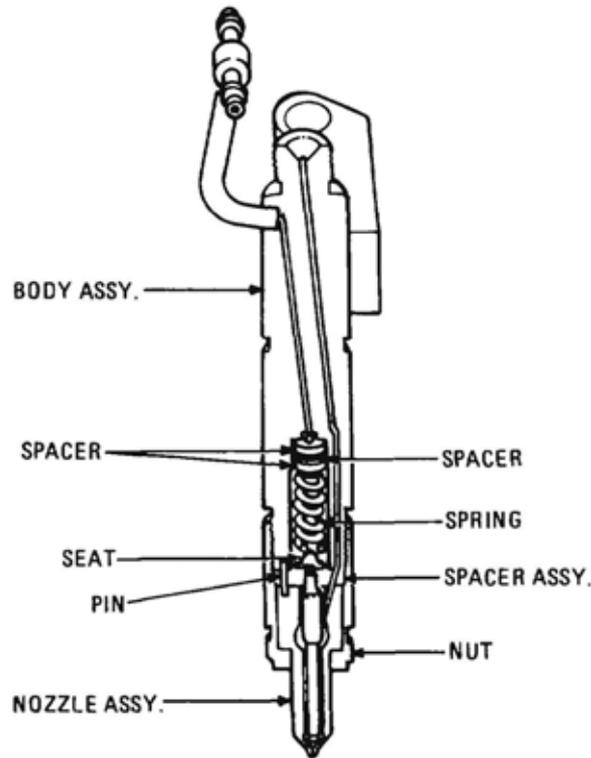

Figure 24 Fuel Injector Nozzle Assembly
39. The fuel under high pressure travels from the injection pump, through the high-pressure lines to the injection nozzle mounted at the top of each cylinder. The high-pressure lines are all the same length and bore size, and are isolated from each other to prevent them from rupturing. The nozzle assembly contains a spindle and spring as well as a high-pressure fuel duct. The spindle bore and the spring chamber are utilised as a passage for the leak-off fuel that cools and lubricates the nozzle valve. This nozzle valve is spring loaded by the spindle and spring assembly located in the nozzle holder. The spring is set to provide the specified nozzle opening pressure. High-pressure fuel lifts the nozzle valve off its seat allowing the fuel to be injected into the cylinder through equally sized holes in the nozzle tip in the form of a fine spray (Figure 24).